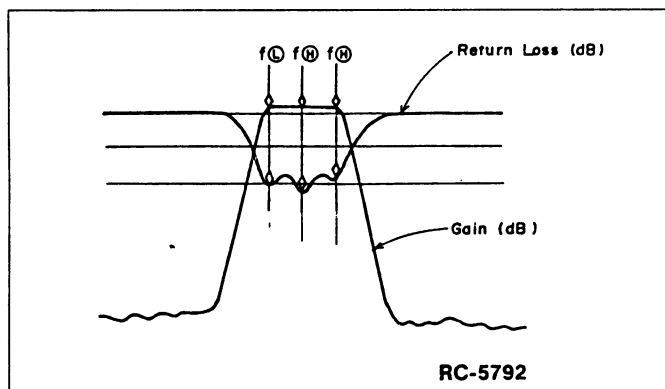

FIGURE 10 - RF FREQUENCY RESPONSE
2. Set the sweep frequency of the Network Analyzer to $f(M) + 100$ MHz and apply markers to $f(M)$, $f(L)$ and $f(H)$ (see Figure 10).
- a. **Check the Local Oscillator Frequency:** Check the frequency after connecting a frequency counter through a 1 PF capacitor to the collector of transistor Q106. The frequency relation at various stages is shown in Figure 10. If a frequency error is 1 PPM or more in the temperature range of 20 to 25°C, adjust the frequency of TCXO (A103). The frequency of TCXO is 12.8 MHz.